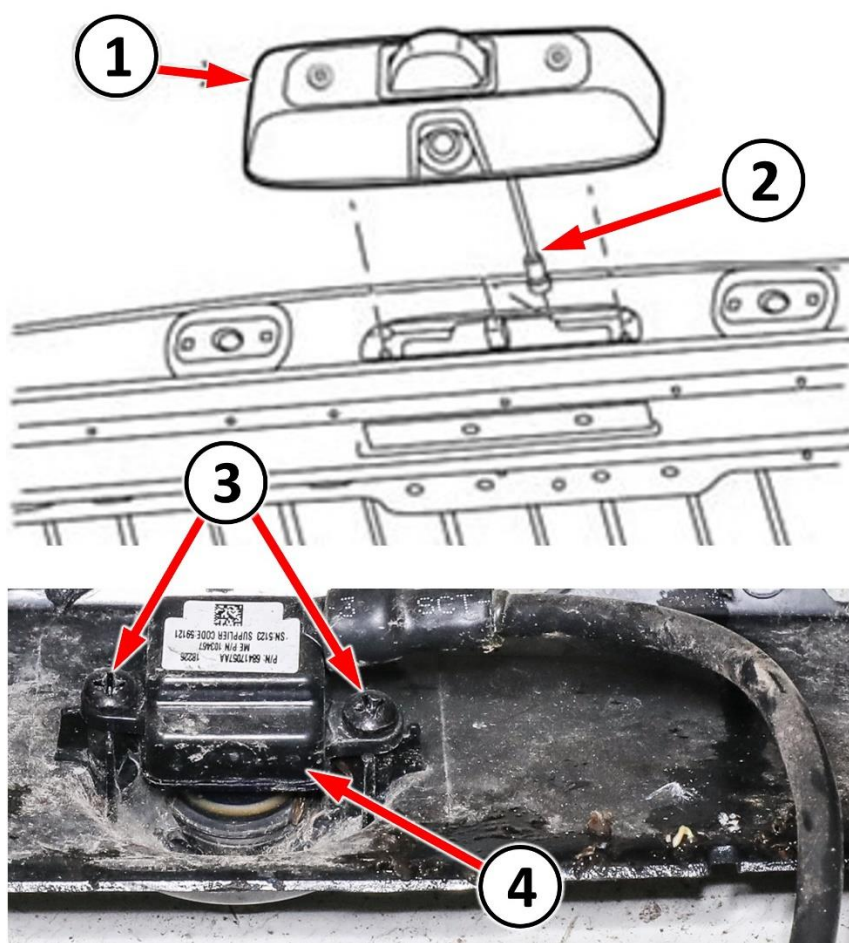

Figure 13 – Clearance Lamp Housing and Rearview Camera
10. Remove the clearance lamp housing (1) from the vehicle while also guiding the rearview camera wire harness (2) through the vehicle roof and clearance lamp bracket (Figure 13).
11. Remove the camera two screws (3) then remove the camera (4) from the clearance lamp housing (Figure 13).
12. Install the camera (4) into the center clearance lamp housing and fasten with the two screws (3) (Figure 13).
13. Guide the rearview camera wire harness (2) through the clearance lamp bracket and vehicle roof (Figure 13).